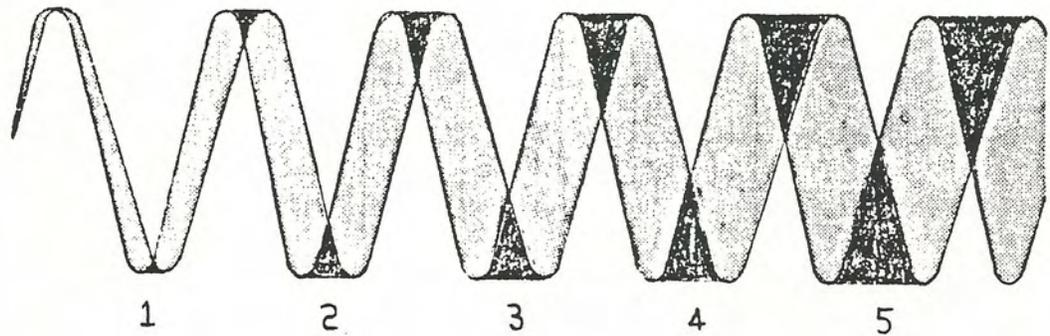

Figure 5-1
8. Attach an oscilloscope to the "RADIO OUT" BNC. Refer to print 15A1114 while doing this step. (See Figure 5-1)
9. Adjust the oscilloscope to display about six periods of the unmodulated subcarrier as shown in (A) on the drawing. Using the MODULATION ADJUST pot (R17), increase subcarrier modulation until the fifth crossover occurs midway as shown in (B) on the drawing.